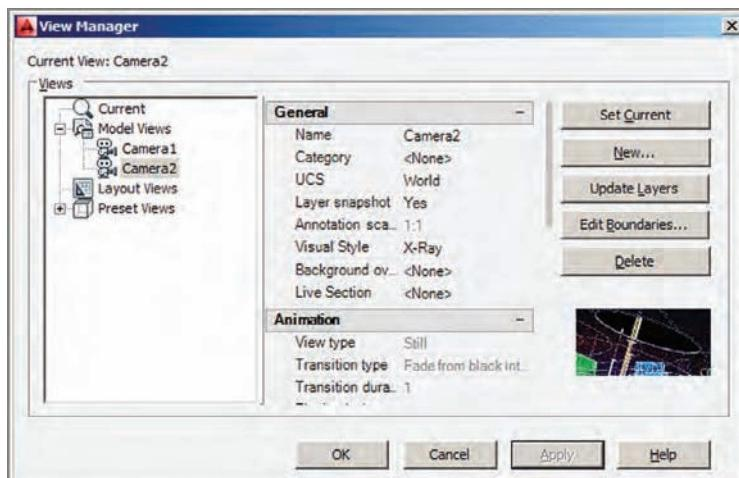

FIGURE 16.24 Restoring a view
5. Type **V** (for view) and press Enter. Select Camera2 in the list of Model Views in the View Manager dialog box (see Figure 16.24). Click Set Current, Apply, and then OK.